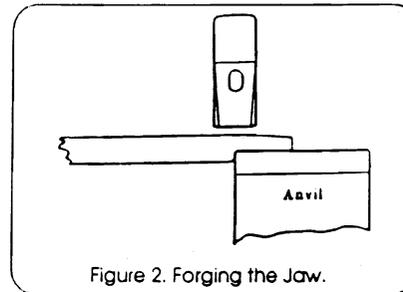

Figure 2. Forging the Jaw.
2. Determine the amount of material needed for the jaw shape desired. Mark or mentally note this distance on the bar. At a light welding heat place the piece over the near rounded edge of the anvil and strike half face blows forging a rounded shoulder 1/2 the thickness of the parent stock. This portion will become the jaw. See Figure 2